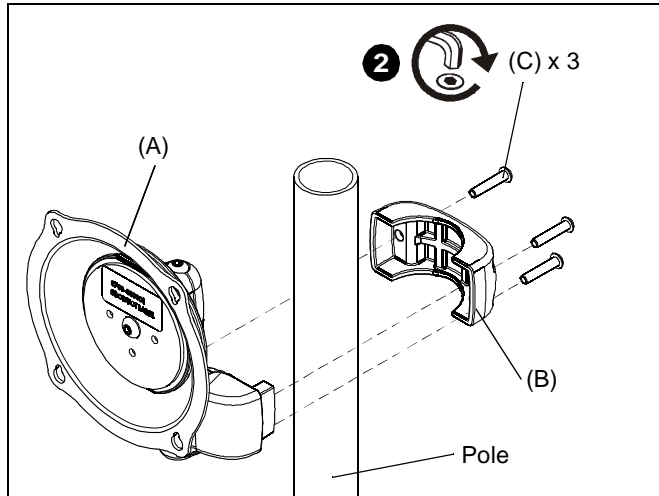

Figure 1
2. Place mount (A) against pole, with clamp (B) on opposite side of pole (See Figure 1). Using 5/32" hex key, loosely assemble with three 1/4-20 x 1-1/4" button head cap screws (C).